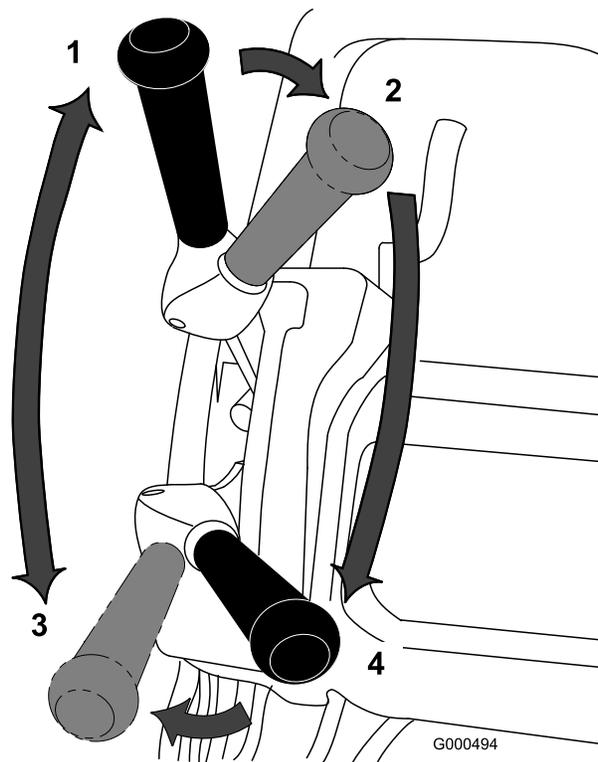

Figure 31
1. Start the machine, set the throttle to a reduced speed, push down on the handle to raise the cutting unit, press the operator-presence control, move the traction and reel-drive engagement lever to the FORWARD (transport) position, and transport the machine onto the collar of the green (Figure 31).
2. Move the lever to the NEUTRAL position (Figure 31).
3. Move the lever to the traction—NEUTRAL and reel drive—DISENGAGE position (Figure 31).
4. Move the lever to the traction—FORWARD and reel drive—ENGAGE position (Figure 31), increase the throttle speed until the machine is traveling at the desired ground speed, drive the machine onto the green, lower the cutting unit to the ground, and begin mowing.